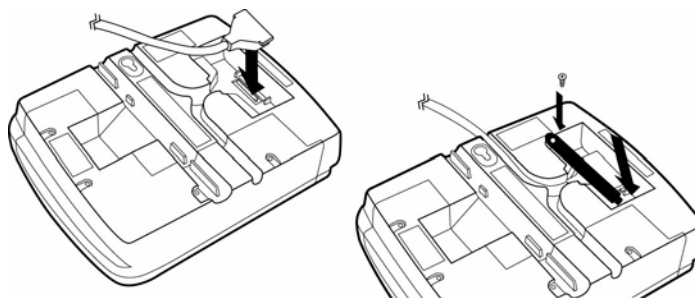

Figure 25 Plugging in Multiport Cable and Affixing Cable Tie-down Strap
- 4 Affix the cable tie-down strap and secure with screw (Figure 25).